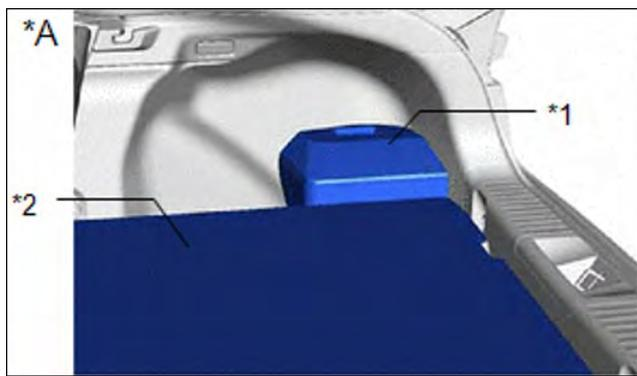

Figure 2a
- (a) Illustrations are examples and the actual details may differ. Check the specification of the deck board assembly shown in Figures 2a and 2b.